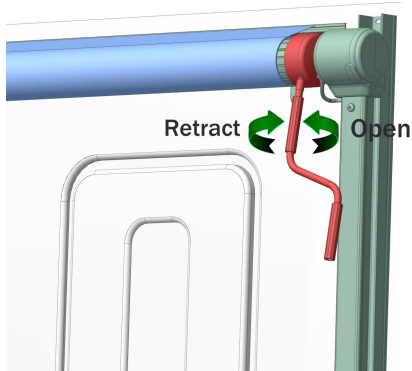

Figure D24
6.1 The B2E sunshade supports manual power-off. In case of power outage or malfunction, the manual crank can be inserted into the manual power-off hole on the side cover of the scroll motor, and the crank can be rotated to retract or release the sunshade. (Figure D24)